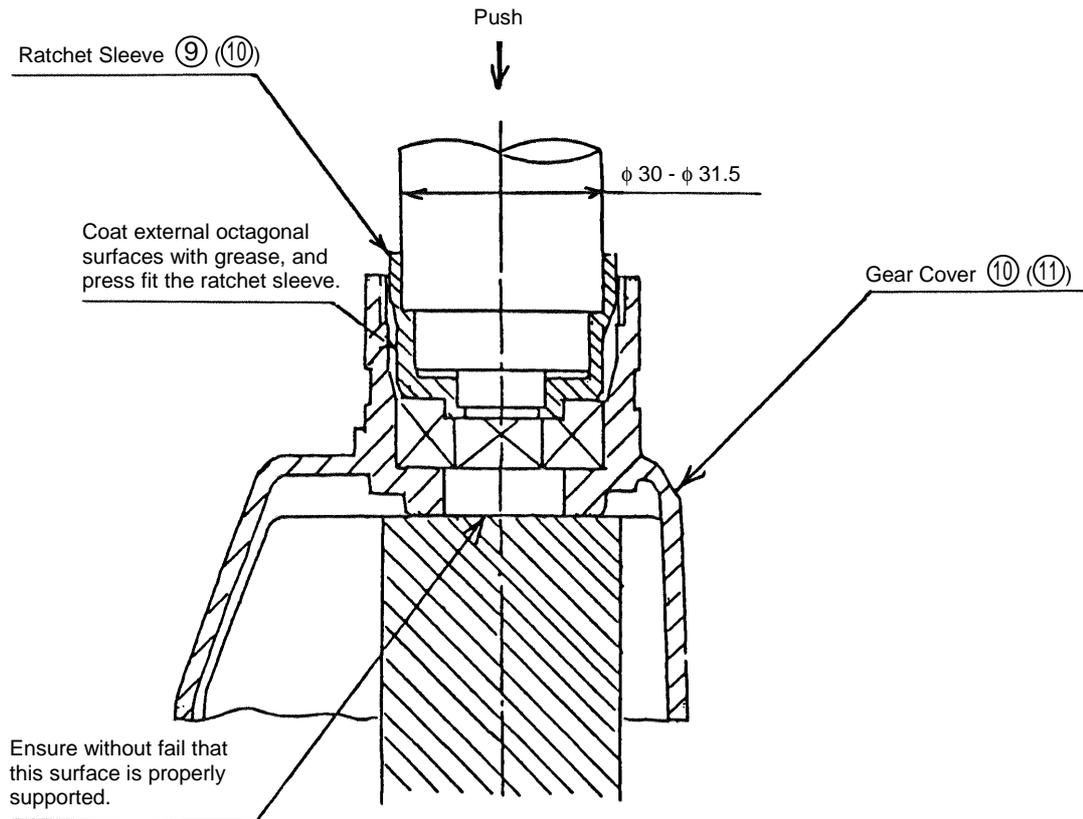

Fig. 13
First, liberally coat grease (Hitachi Motor Grease No. 29, Code No. 930035, is recommended) on the octagonal portion of external surface of the Ratchet Sleeve ⑨ (⑩). Next, insert the Ratchet Sleeve slightly into the mounting portion of the Gear Cover ⑩ (⑪), turn it by hand to confirm that the octagonal fitting surfaces are properly aligned, and push it part way into the Gear Cover. then, as illustrated in Fig. 13, support the inner portion with an appropriate jig and press-fit the Ratchet Sleeve fully into the Gear Cover.